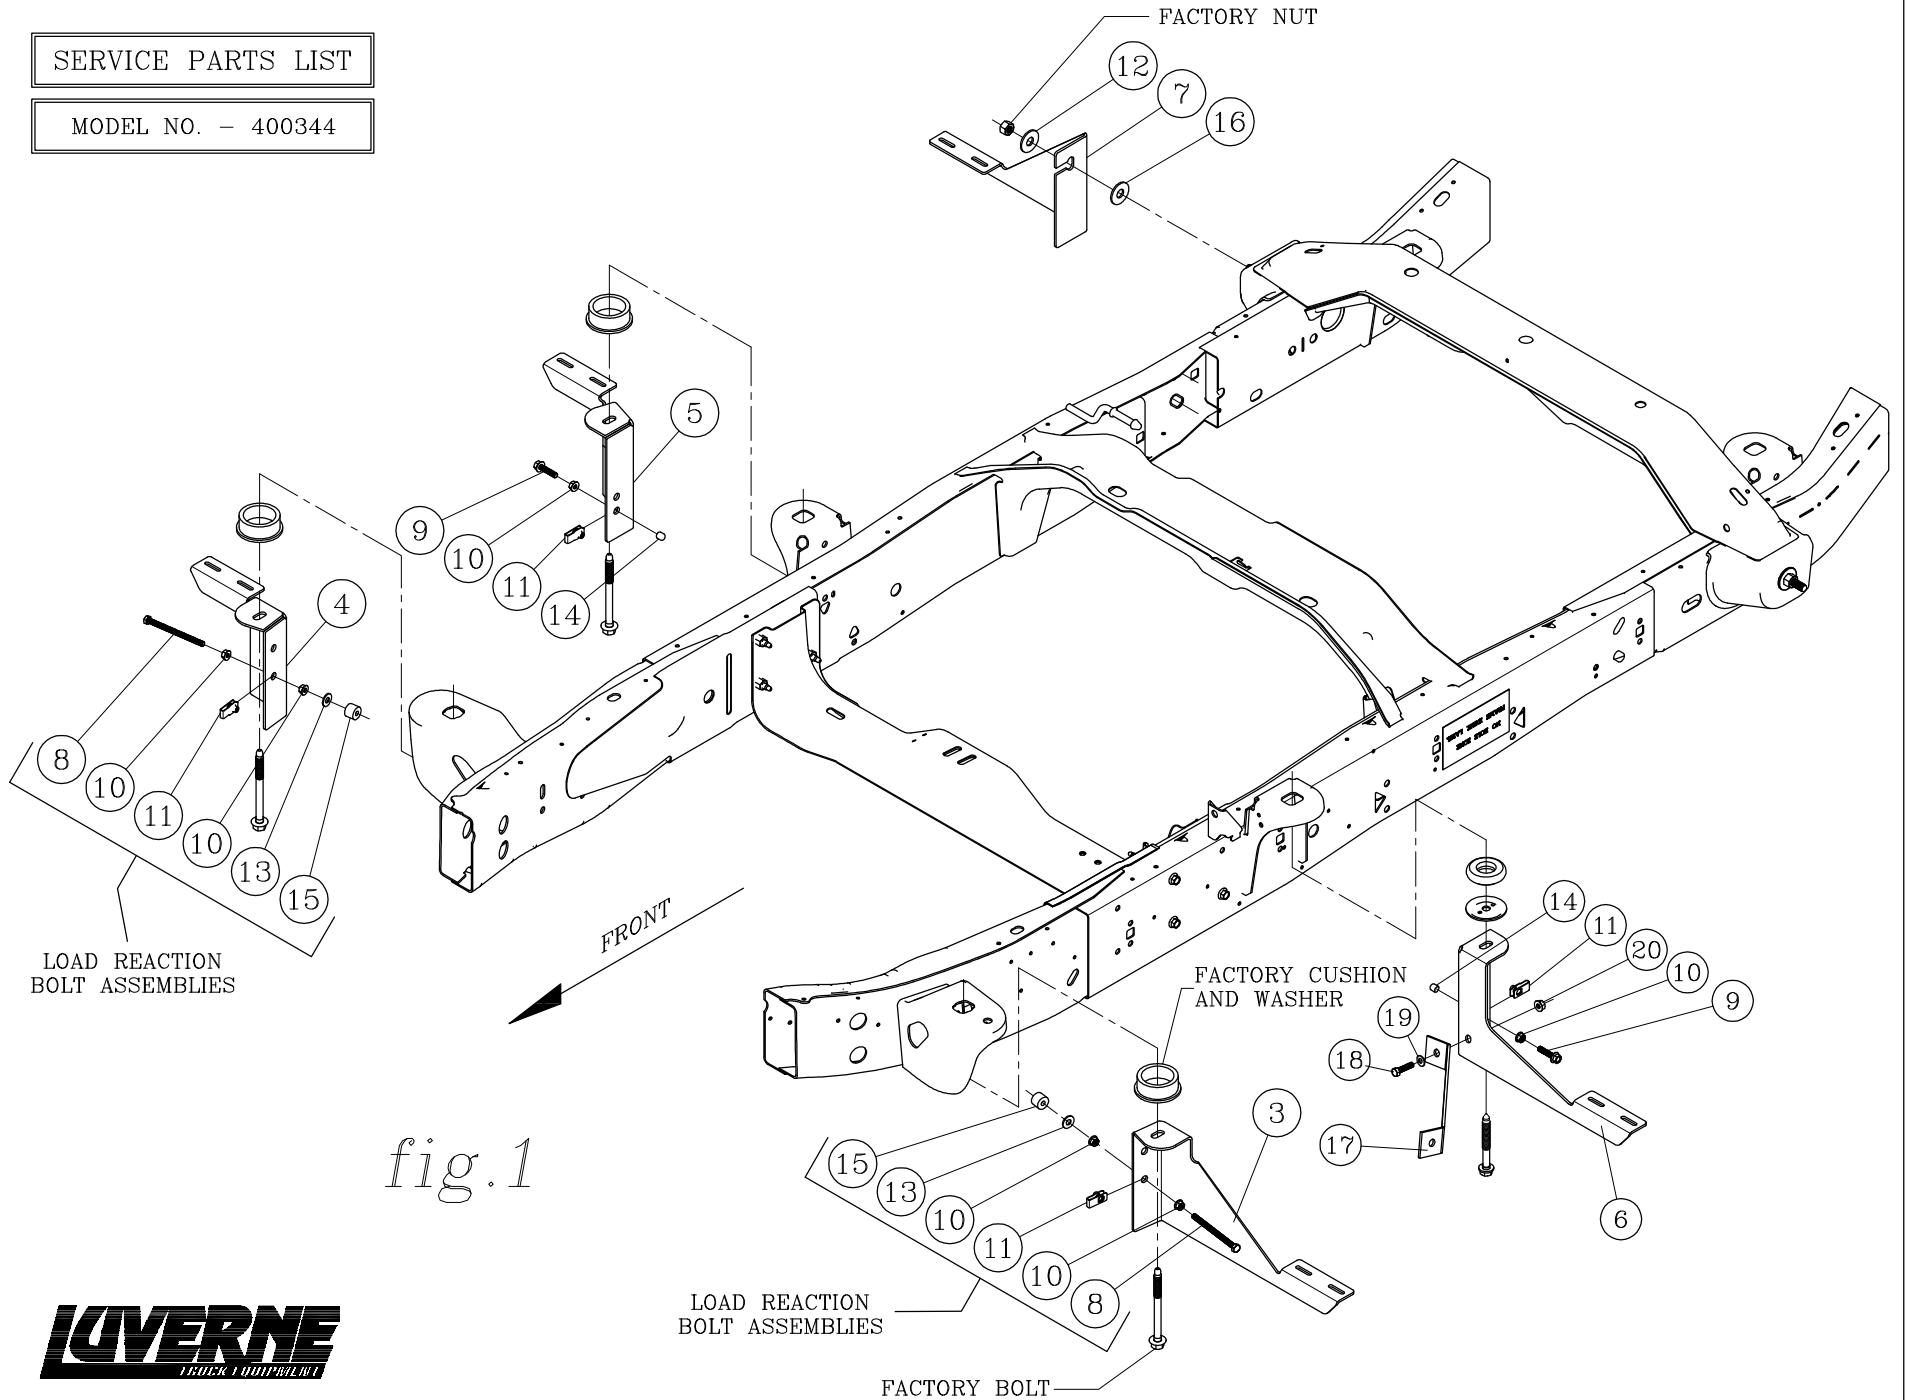

fig.1
4. INSTALL A 3/8"-16 SERRATED FLANGE NUT (ITEM #10) ON THE 3/8"-16 X 5" HEX BOLT (ITEM #8) WITH THE FLANGE FACING TOWARD THE END OF THE BOLT AND TURN ON JUST SHORT OF THE HEAD. SCREW THE BOLT INTO THE U-NUT AND WHEN IT COMES THROUGH THE OTHER SIDE START ANOTHER FLANGE NUT FACING THE SAME DIRECTION AS THE FIRST NUT. TURN THE NUT ON UNTIL THERE IS 3/4" PROTRUDING FROM THE FACE OF THE NUT, INSTALL A 3/8" FLAT WASHER (ITEM #13) AND THE .354 X 1.00 X .748 RUBBER WASHER (ITEM #15) INTO THE END OF THE BOLT. ADJUST THE LOAD REACTION BOLT ASSEMBLY SO THAT THE RUBBER CUSHION IS SNUG AGAINST THE FRAME AND TIGHTEN DOWN THE OUTSIDE FLANGE NUT. **(LOAD REACTION BOLT ASSEMBLY)** AS SHOWN IN *fig. 1*.
8. INSTALL A 3/8"-16 SERRATED FLANGE NUT (ITEM #10) ON THE 3/8"-16 X 1-3/4" HEX BOLT (ITEM #9) WITH THE FLANGE FACING TOWARD THE END OF THE BOLT AND TURN ON JUST SHORT OF THE HEAD. SCREW THE BOLT INTO THE U-NUT AND WHEN IT COMES THROUGH THE OTHER SIDE ADJUST THE LOAD REACTION BOLT ASSEMBLY SO THAT THE RUBBER PLUG IS SNUG AGAINST THE FRAME AND TIGHTEN DOWN THE OUTSIDE FLANGE NUT. **(LOAD REACTION BOLT ASSEMBLY)** AS SHOWN IN *fig. 1*.
15. INSTALL A 3/8"-16 SERRATED FLANGE NUT (ITEM #10) ON THE 3/8"-16 X 5" HEX BOLT (ITEM #8) WITH THE FLANGE FACING TOWARD THE END OF THE BOLT AND TURN ON JUST SHORT OF THE HEAD. SCREW THE BOLT INTO THE U-NUT AND WHEN IT COMES THROUGH THE OTHER SIDE START ANOTHER FLANGE NUT FACING THE SAME DIRECTION AS THE FIRST NUT. TURN THE NUT ON UNTIL THERE IS 3/4" PROTRUDING FROM THE FACE OF THE NUT, INSTALL A 3/8" FLAT WASHER (ITEM #13) AND THE .354 X 1.00 X .748 RUBBER WASHER (ITEM #15) INTO THE END OF THE BOLT. ADJUST THE LOAD REACTION BOLT ASSEMBLY SO THAT THE RUBBER CUSHION IS SNUG AGAINST THE FRAME AND TIGHTEN DOWN THE OUTSIDE FLANGE NUT. **(LOAD REACTION BOLT ASSEMBLY)** AS SHOWN IN *fig. 1*.
19. INSTALL A 3/8"-16 SERRATED FLANGE NUT (ITEM #10) ON THE 3/8"-16 X 1-3/4" HEX BOLT (ITEM #9) WITH THE FLANGE FACING TOWARD THE END OF THE BOLT AND TURN ON JUST SHORT OF THE HEAD. SCREW THE BOLT INTO THE U-NUT AND WHEN IT COMES THROUGH THE OTHER SIDE ADJUST THE LOAD REACTION BOLT ASSEMBLY SO THAT THE RUBBER PLUG IS SNUG AGAINST THE FRAME AND TIGHTEN DOWN THE OUTSIDE FLANGE NUT. **(LOAD REACTION BOLT ASSEMBLY)** AS SHOWN IN *fig. 1*.